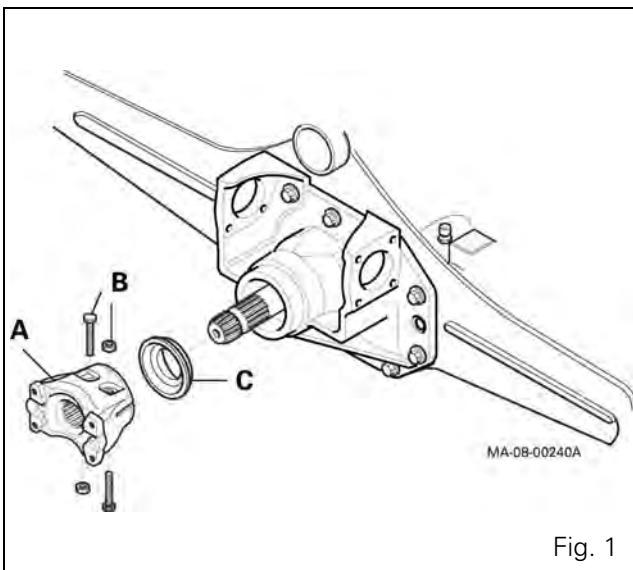

Fig. 1
6. Remove screw B with its nut from flange A. Extract the flange and recover the seal C (Fig. 1).